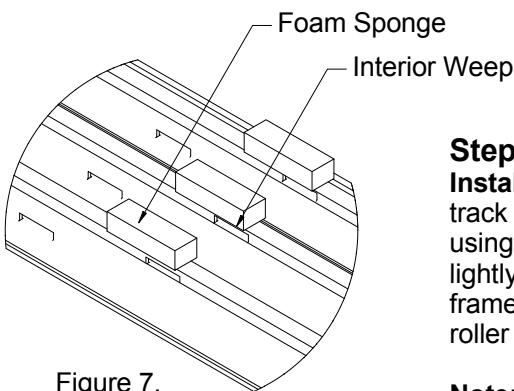

Figure 7.
Step 10. (Foam Sponge Installation) Compress and insert the reticulated foam sponge provided in the frame hardware pack. Placement of the sponge should fully cover the interior weep of the frame sill. Complete this process at each weep location for all roller track cavities (See Figure 7).